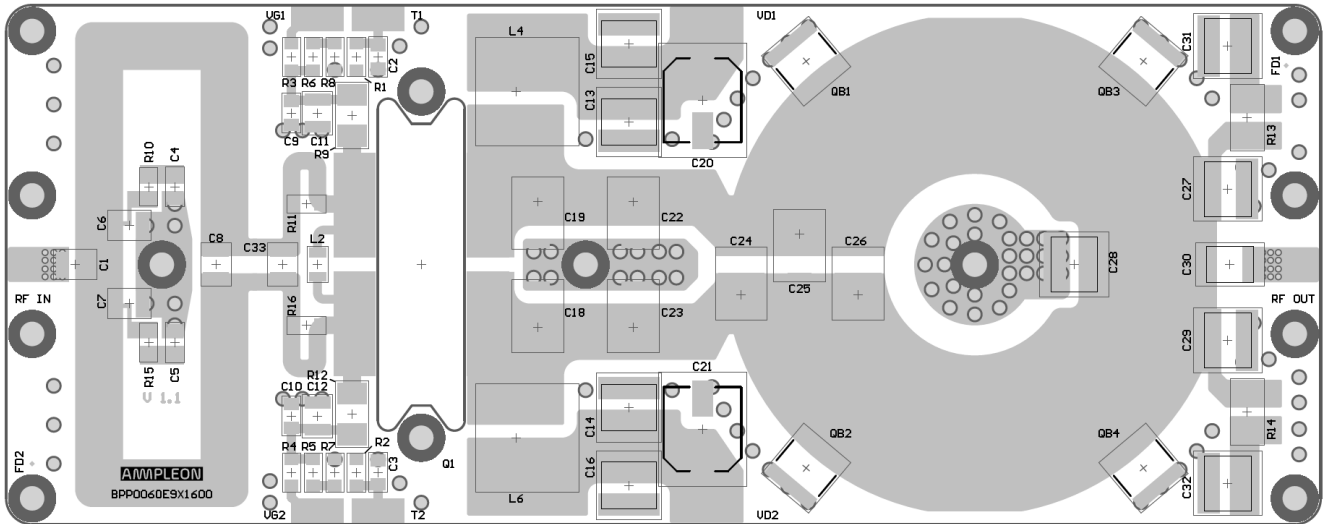

Figure 12 PCB and component layout
- Figure 12 PCB and component layout 11